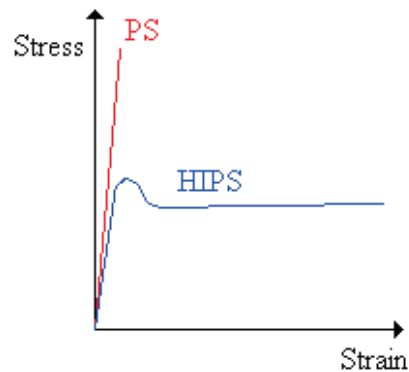

Figure 4: Stress-strain curve for polystyrene (PS) and high impact polystyrene (HIPS)
- (c). Addition of rubber particles into polystyrene has changed the stress-strain behavior of polystyrene as depicted in Figure 4. The new polymer known as high impact polystyrene (HIPS) has distinctively different from polystyrene. Discuss and comment on the behavior of both polymers based on the curve in Figure 4.